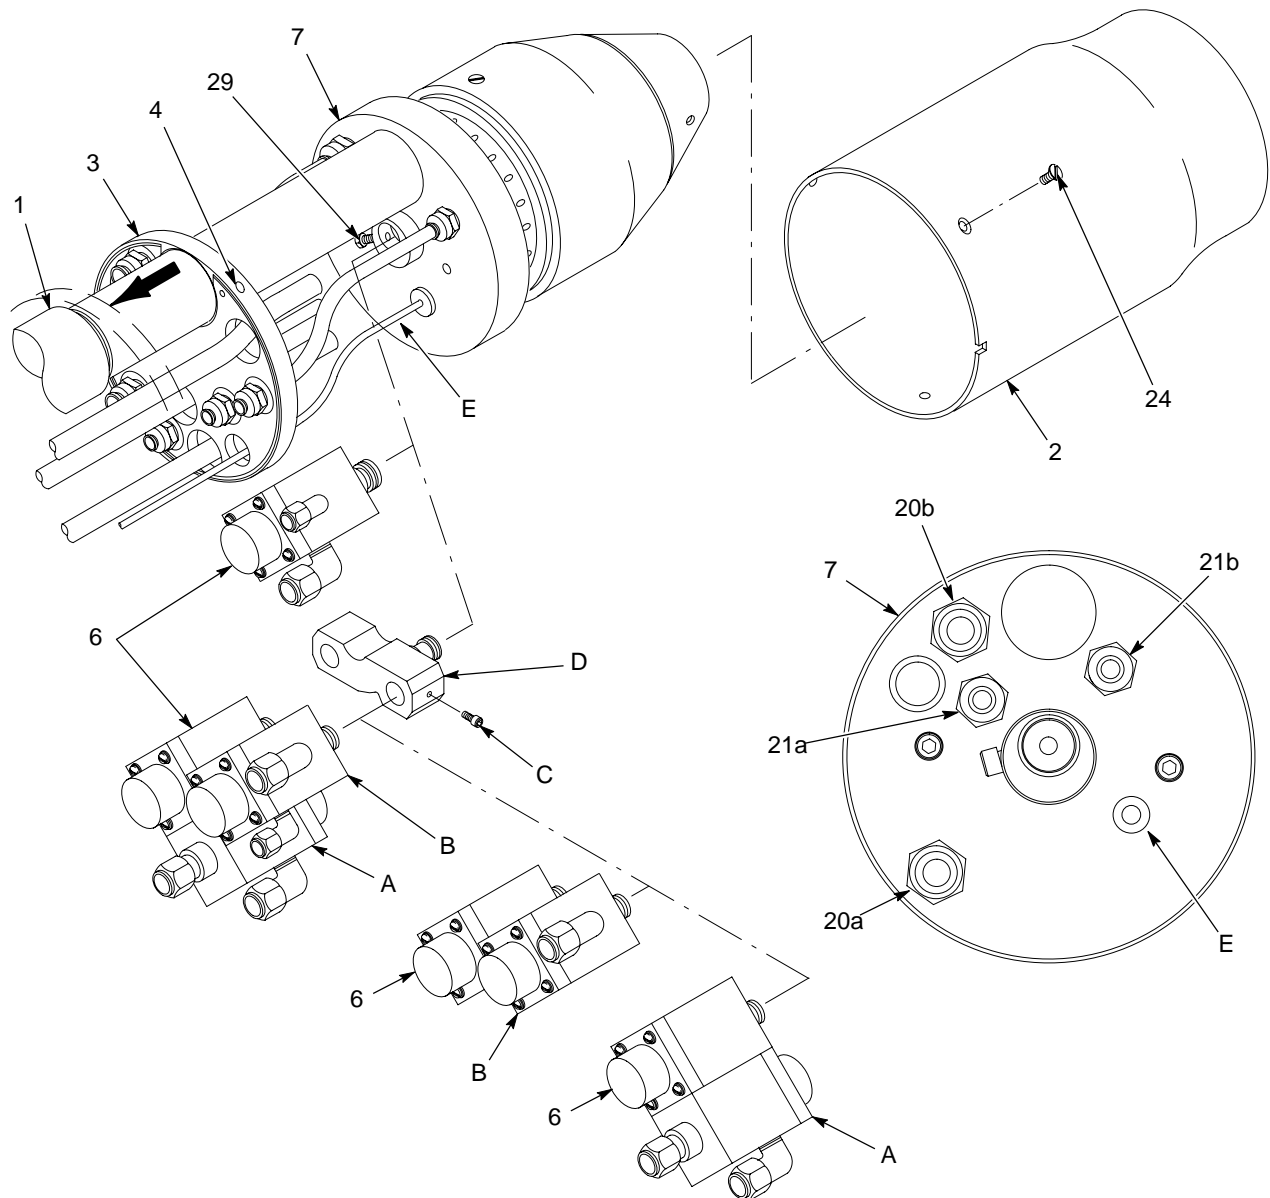
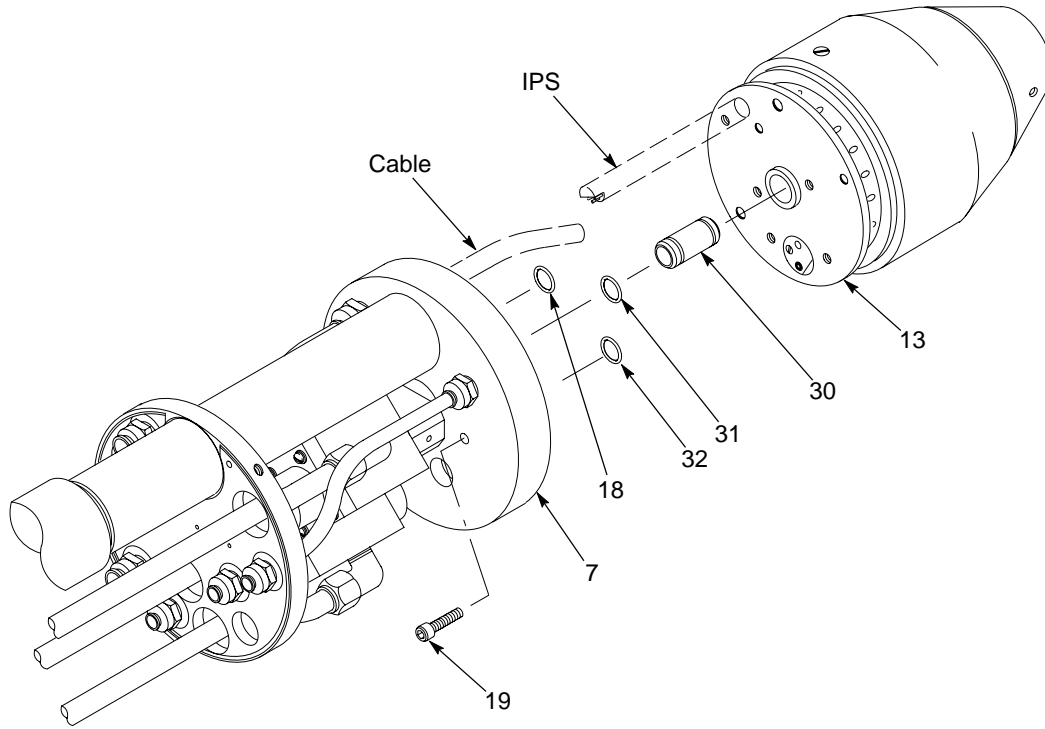
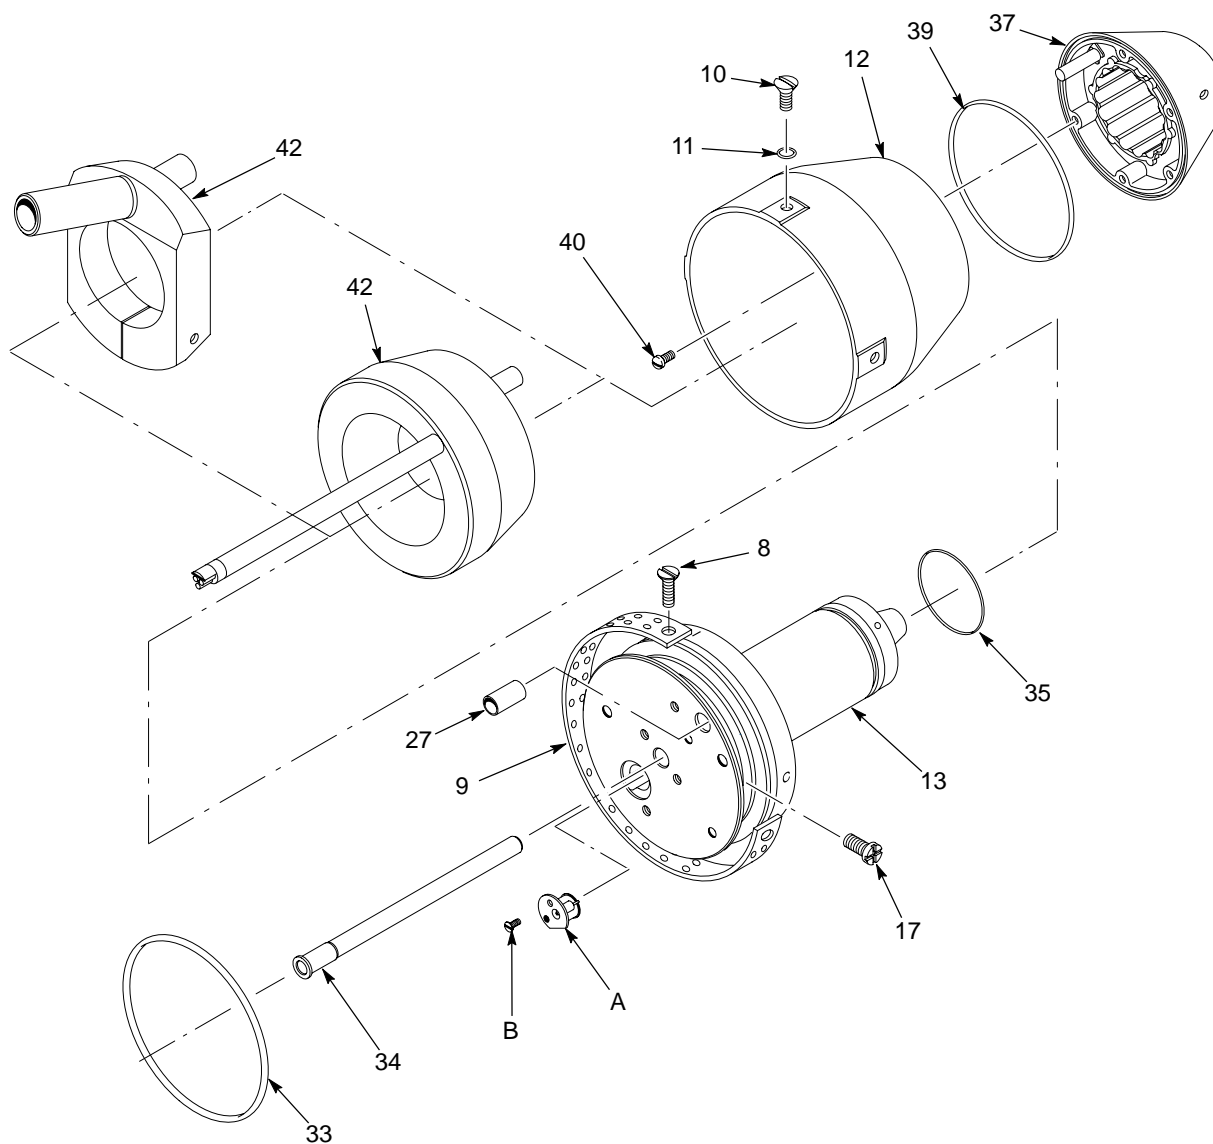

Figure 6-1 Valve Replacement
Figure 6-3 Turbine Removal
Figure 6-4 Turbine Disassembly
See Figure 6-1
See Figure 6-1.
- Reconnect the air tubing to the interface plate fittings correctly. Figure 6-1 includes a view of the interface plate. The fittings on the rear mounting plate are labeled.
3. See Figure 6-3. Support the turbine (13) and remove the two socket-head screws (19) from the interface plate (7) with the $\frac{3}{16}$ -in. hex-key ball driver supplied with the RA-20 rotary atomizer.
1. See Figure 6-3. Inspect the five O-rings (18, 32) installed in the interface plate. Replace them if they are damaged.
2. Remove the fluid coupling (30). Inspect the coupling O-rings (31) and replace them if they are damaged. Coat the O-rings with O-ring grease and install the coupling in the interface plate.
3. See Figure 6-4. Remove the shroud screws (10) and O-rings (11) to remove the front shroud (12) from the turbine (13).
- O-ring (35)
- IPS multiplier (42) or cable holder (42), if used
5. If the charge ring is being replaced, remove the three fillister-head screws (40) securing the front shroud to the charge ring. Separate the charge ring from the front shroud and remove the O-ring (39).
6. Remove the small flat-head screw (B) and the transmitter assembly (A) from the turbine.
- flat-head screw (8)
- exhaust cover (9)
- four turbine exhaust plugs (17)
- fluid tube (34)
See Figure 6-4.
1. See Figure 6-4. Secure the front shroud to the turbine with the shroud screws (10) and O-rings (11).
2. See Figure 6-3. Install the turbine (13) on the interface plate (7), making sure the
- fluid coupling (30) slides into the fluid tube
3. Secure the turbine to the interface plate with the two socket-head screws (19).
5. See Figure 6-1. Install the rear shroud (2).